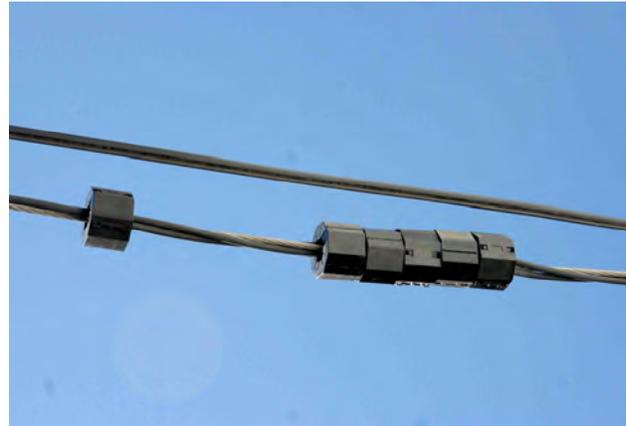
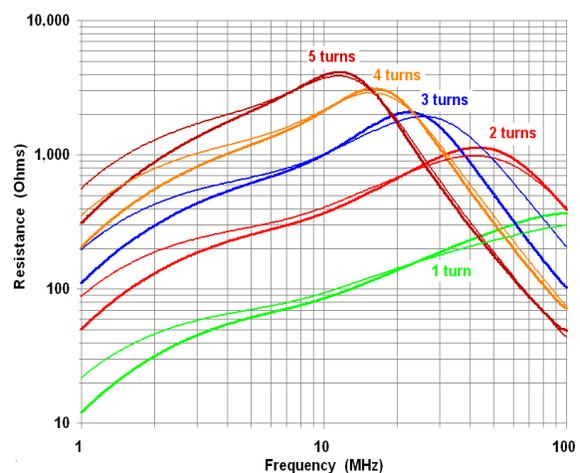
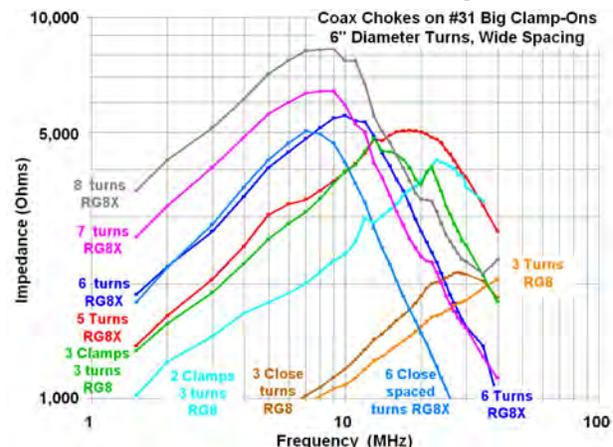

Fig 31 – Chokes on a Power Line
Fig 38 – The "Biggest #31 Clamp-On"
Fig 45 – Measured Impedance of Chokes wound on the "Big #31 Clamp-on"
**Ferrite Chokes On a Service Drop** Radiation of common mode noise from a typical residential overhead 240V power service can be suppressed by adding ferrite cores to the twisted triplet as it enters the premises. In Fig 31, six "big clamp-ons" (Fig 38) provided some suppression of noise on 40 and 30 meters to the antenna that ran parallel and fairly close to the power drop. This technique can only be used when the ferrite surrounds all three current-carrying conductors (two phases and the neutral), not just one of them. Thus, the ferrite sees only the common mode current, not the load current. The other cable visible in the photo is a telephone line, and chokes were applied to it at the point where it entered the house.
**Weight:** A 2.4" o.d. #31 toroid weighs about 4 oz, and we need less than 8 ft of coax for five turns, so a five core choke on RG8 will add just about 4 lb to the weight of the antenna. The "Big Clamp-On" of Fig 38 can also be used for coaxial chokes; it weighs 11 oz, and is equivalent to four or five toroids. Can we use smaller coax? Probably, especially if our antennas are always reasonably well behaved. The failures mostly come when they are not. W8JI reports that he often feeds high dipoles for 160 and 80 with RG6 to reduce weight, thus reducing sag and the strain on support lines, and that a good RG6 will handle full legal power. My "workhorse" 160/80/40 dipole, fed with 150 ft of RG59B that I bought from "The Wireman" several years ago, does fine with the full output of my Titan amp, even with a mismatch on the line that approaches 2.5:1 during SSB contests.
**The Biggest Clamp-On** Fig 38 is data for coils wound through the "biggest Fair-Rite #31 clamp-on" in Fig 5. Measured data for 1-5 turns through this part and a somewhat smaller one are shown in Fig 38. The heavier lines are the biggest clamp-on (1" i.d.); the lighter lines are for a 0.75" i.d. part. While the smaller part provides a bit higher impedance at low frequencies, it is far less useful because it doesn't allow as many turns of most cables on which we would like to use it. This big clamp-on is quite useful in many applications where it isn't practical to remove a large connector. Although we only measured small wire chokes up to five turns with this part, it can certainly be used with more than 5 turns of some cables. More turns moves the resonance even further down in frequency; it also increases the equivalent series resistance below resonance, and for up to about one-half octave above resonance. See Fig 45 for coaxial chokes using the "biggest clamp-on."
**The Biggest Clamp-On** Fig 45 is measured data for various coaxial chokes wound through the "biggest #31 clamp-on" of Fig 5 and Fig 38. This clamp-on is a very useful and versatile part, because it can easily be applied to cables without removing a large connector, or without disconnecting them from an existing system.